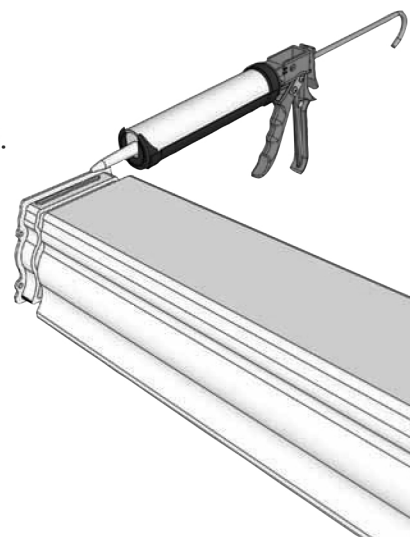

Figure 5
6. Attach the Assembled Sections to the Newel Posts or Wall (Figure 5)